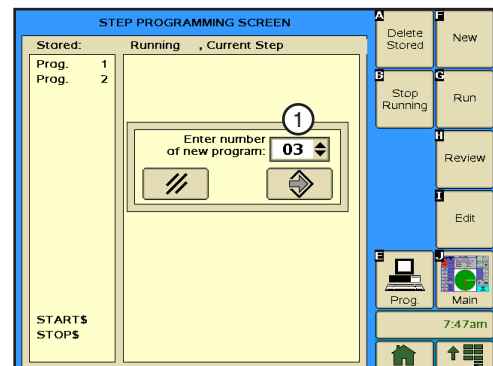

Figure 148-1 1. New Program Number Field
1. Push **Prog.** and **Step Prog.** to view the Step Program screen. Refer to Figure 148-1.